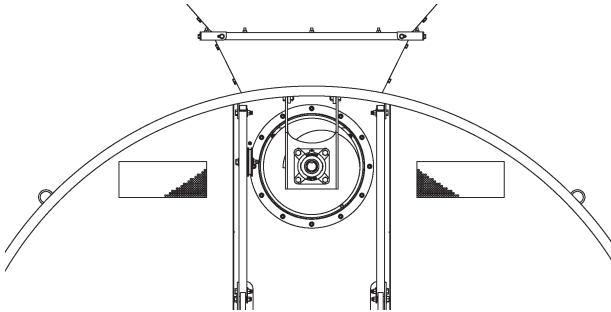

Figure 17 – Auger front
13) Before continuing with the preparation of the grain bag, check that the auger is completely free from obstructions along the entire tube and sleeve, i.e. that it rotates freely. Figure 17 shows the front of the auger.